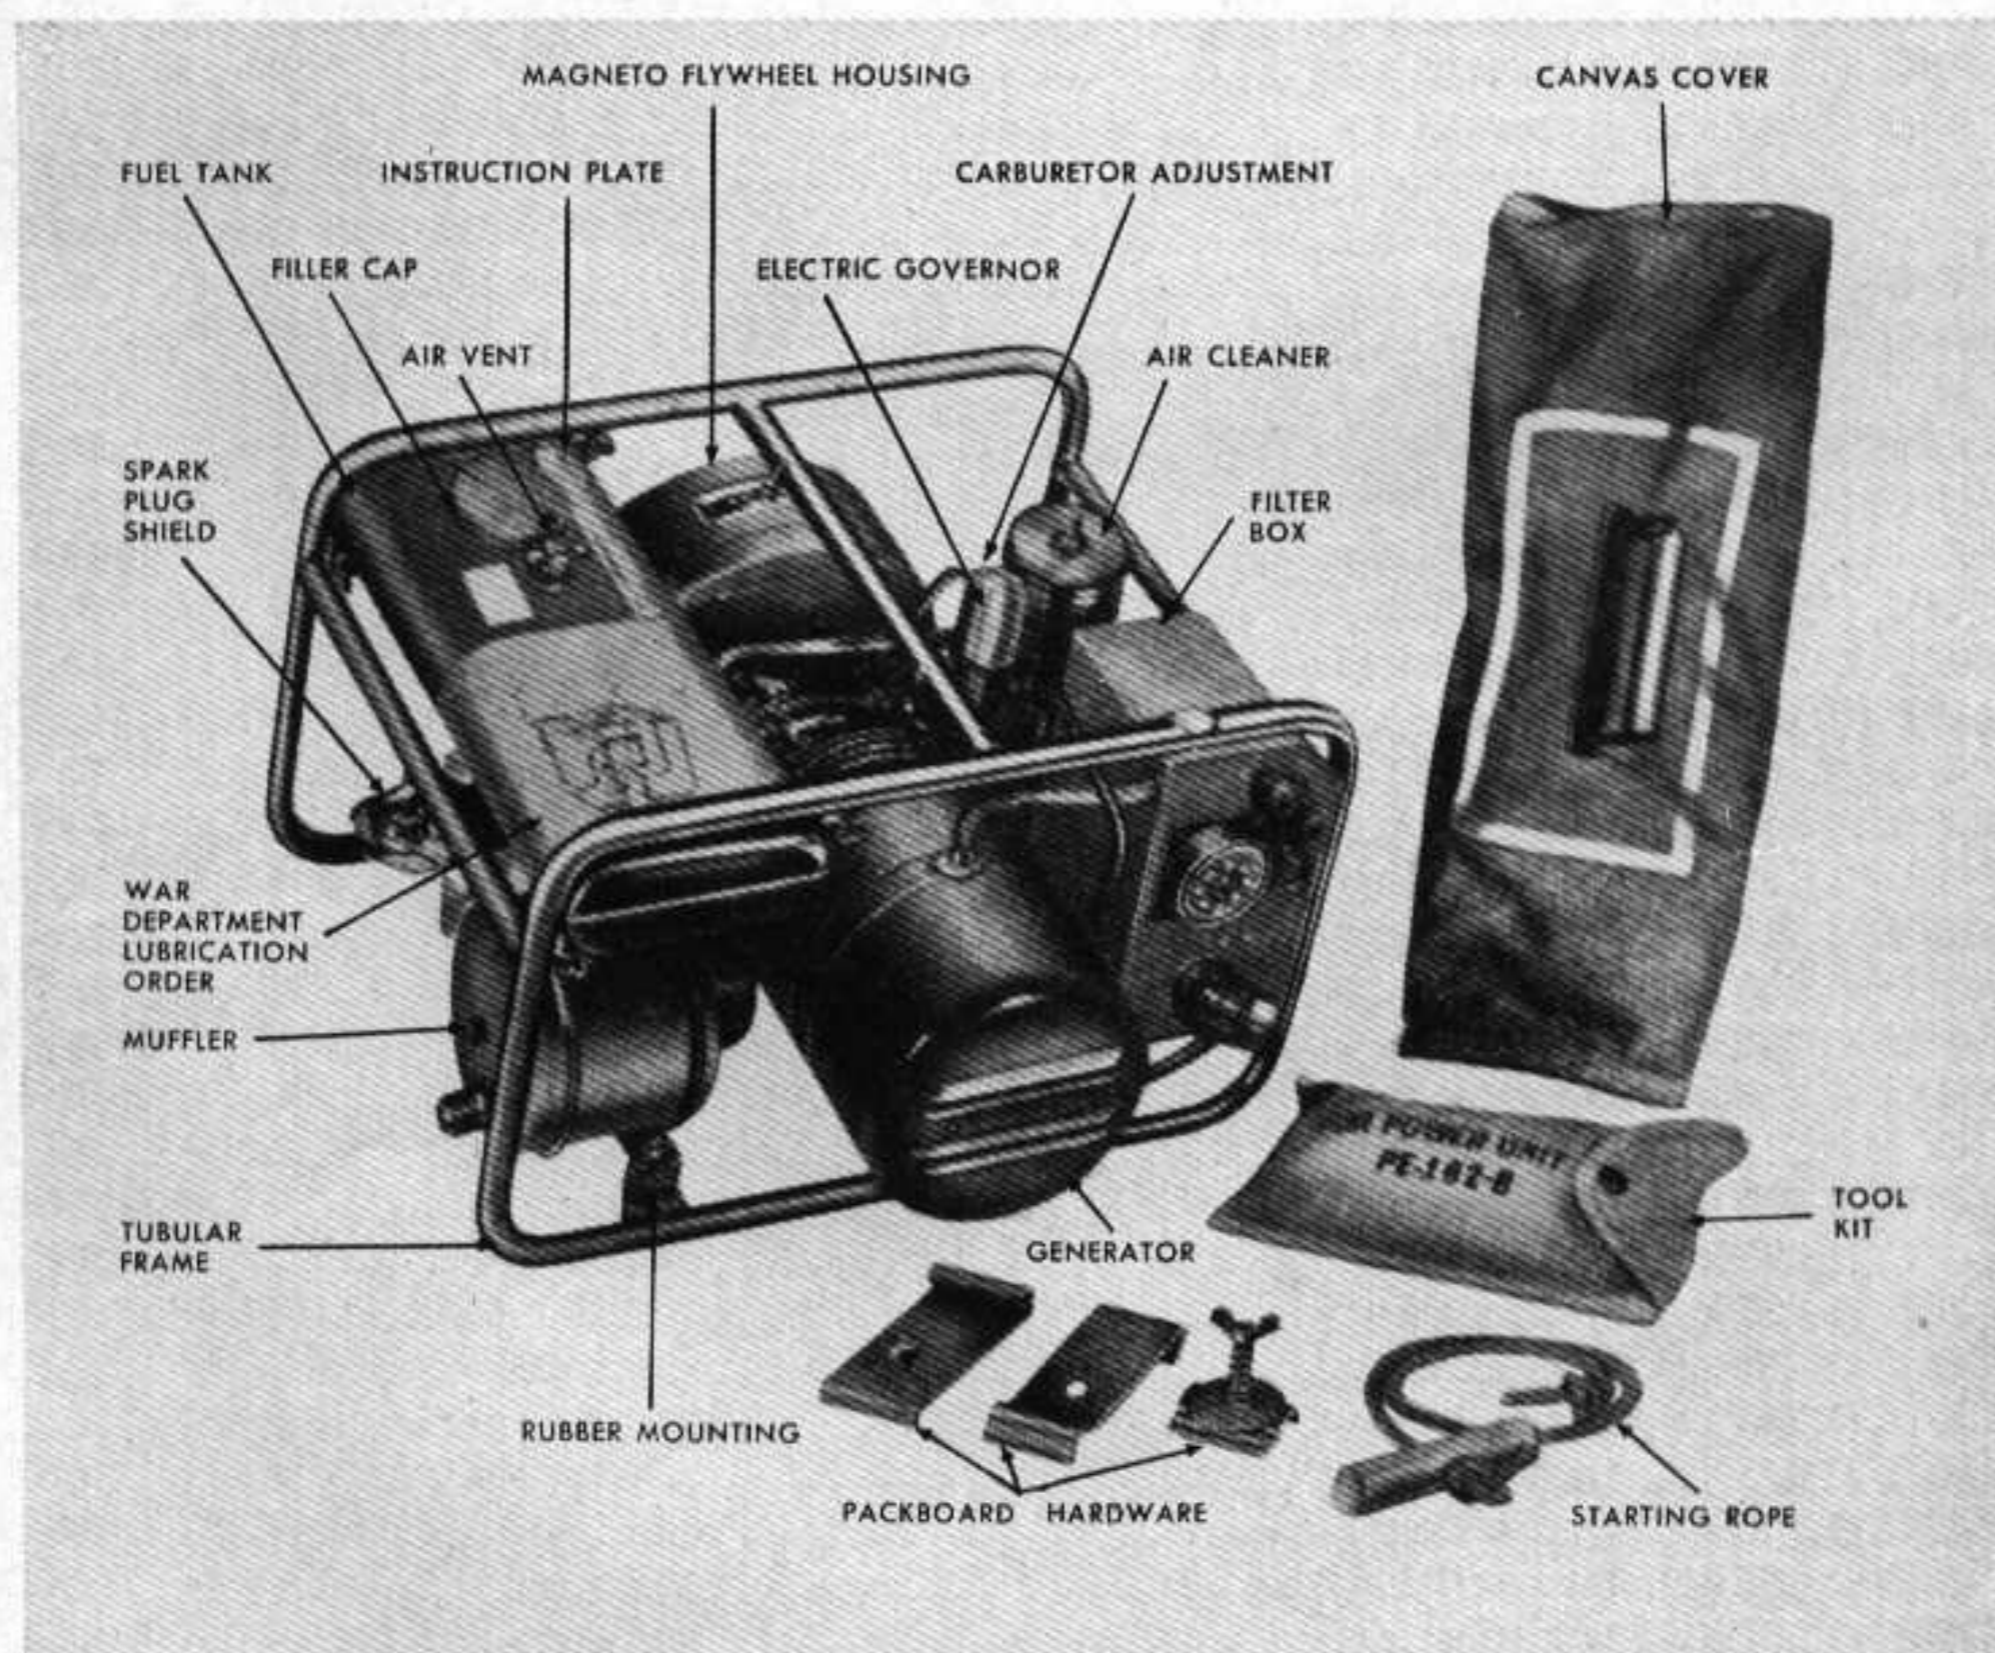

Figure 54. Power unit PE-162-B and equipment.
76. Power Unit PE-162-(*) (fig. 54)